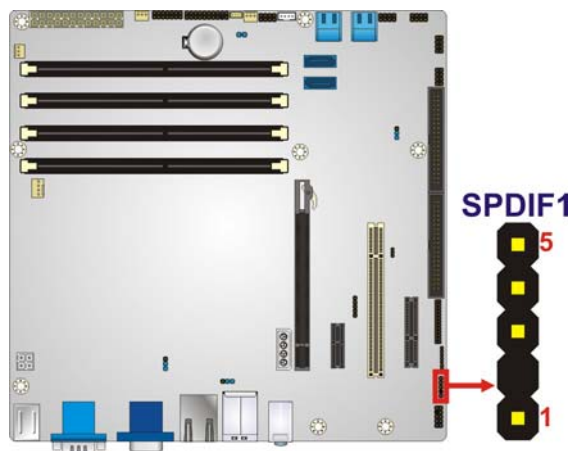

Figure 3-19: SPDIF Connector Location
- CN Location:** See Figure 3-19